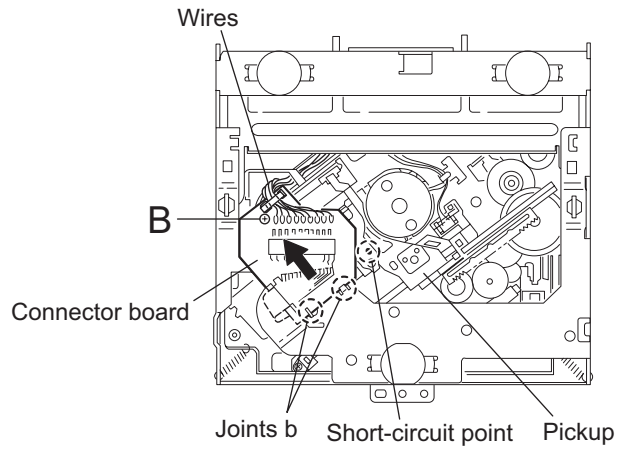

Fig.3
3.1.3 Removing the top chassis assembly (See Figs.3 to 6)
- (1) From the bottom side of the main body, remove the two screws **C** attaching the top chassis assembly to the bottom chassis assembly. (See Fig.3.)
3.2.2 Removing the connector board (See Figs.3 to 5)